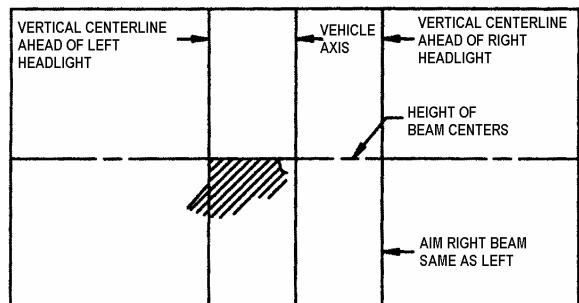

FIGURE 36: HIGH-INTENSITY ZONE (SHADED AREA) OF A PROPERLY AIMED LOWER BEAM ON THE AIMING SCREEN 7.6 M (25 FT) IN FRONT OF VEHICLE 06504
6. Low beam headlights are aimed so that the top edge (the cutoff) of the high-intensity zone is at the vertical location as per Table 1 and the left edge of the high-intensity zone is at the vertical centerline of the headlight (Fig. 36).